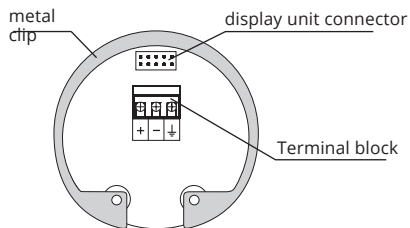

Fig. 17: Inside view of screw terminals of the level meter with current output ULM-70_--_I
5. Connect the cable to the screw terminals according to the diagram in Fig. 17 or 18. Firmly tighten the terminals and the cable outlet.
In the event of strong ambient electromagnetic interference, paralleling of conductors with power distribution, or for distribution to distances over 30 m, we recommend grounding the level meter (see above) and using a shielded cable. Ground the shielding of the cable on the side of the power supply, or the shielding is possible to connect only on inside pin of the level meter marked  see fig. 17 and 19 (the shielding of the cable is always connected in a single location).